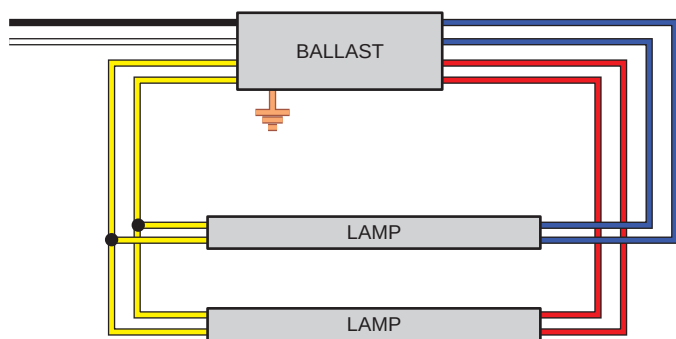

FIGURE 14-16 Rapid-start circuit.
Rapid-Start Circuit. See Figure 14-16. In the rapid-start circuit, the cathodes are heated by a low voltage continuously by a separate winding in the ballast. At the same time, a starting voltage lower than that used in instant-start ballasts provides the “kick” to start the lamp. The result is almost instantaneous starting. You will notice a slight delay in starting. This type of fluorescent lamp requires the installation of a continuous grounded metal strip within an inch of the lamp. The metal wiring channel or the reflector of the luminaire can serve as this grounded strip. The standard rapid-start circuit operates with a lamp current of 430 mA. Two variations of the basic circuit are available; the high-output (HO) circuit operates with a lamp current of 800 mA, and the very high-output (VHO) circuit has 1500 mA